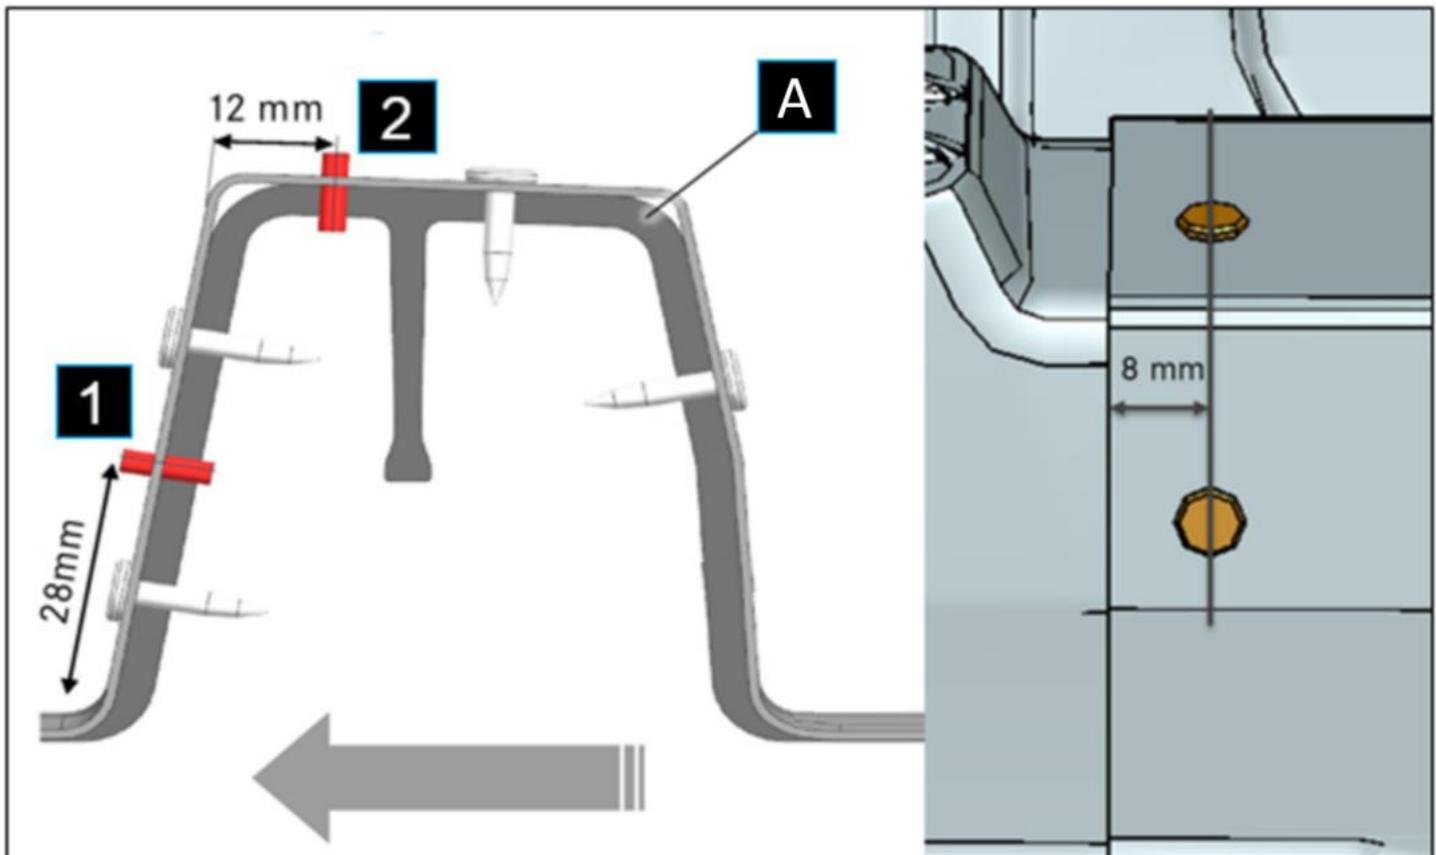

Figure 1
5. Mark rivet holes on cross-member (**A, Figure 1**).